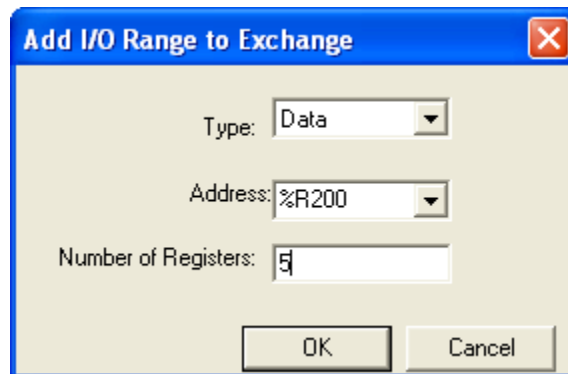

Figure 6.12– Consumed Exchange 2 Data Block Definition – Node 1
5. Click on the **Add Range** button, in the EGD Configuration dialog, to define a Data Block for Consumed Exchange 2. Then fill in the parameters, as shown in Figure 6.12 below, and click **OK**.